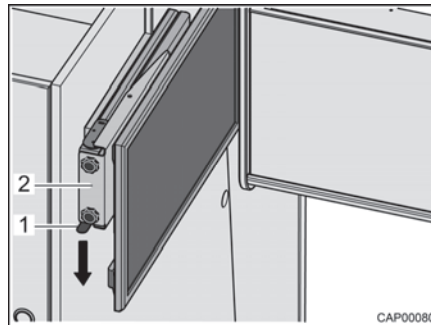

Fig. 39 Pull-out with flat screen
- Press catch spring (Fig. 39,1) downwards and pull pull-out (Fig. 39,2) with flat screen out horizontally towards the centre of the vehicle.
- Push the pull-out (Fig. 39,2) with flat screen horizontally as far as it will go. The catch spring (Fig. 39,1) engages audibly.